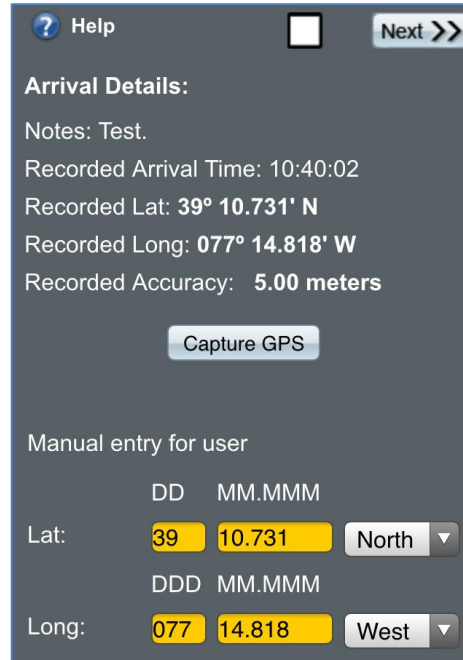

Figure 14: Arrival step – capturing GPS coordinates
4. The next screen (Figure 14) will automatically capture your GPS coordinates. If OASIS cannot acquire your location within 15 m accuracy (as shown in Figure 15), tap **Capture GPS** to try to improve the accuracy.